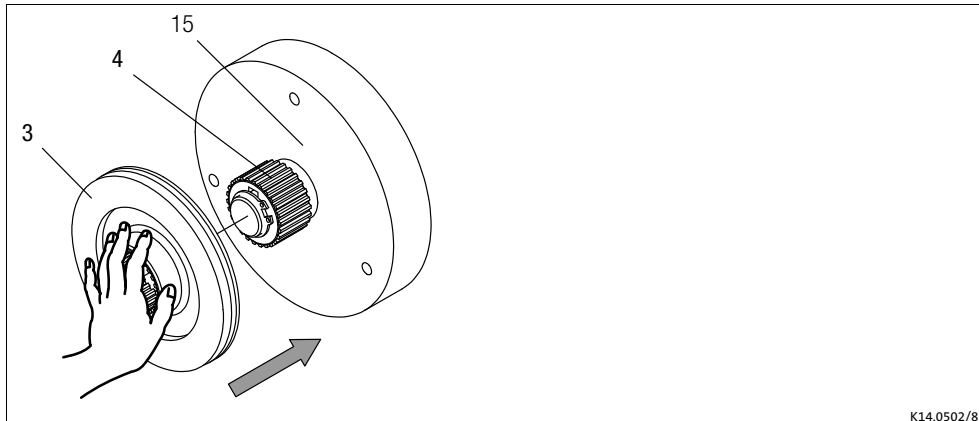

Fig. 4 Rotor mounting
1. Push the rotor (3) onto the hub (4) and check whether it can be moved by hand (Fig. 4).